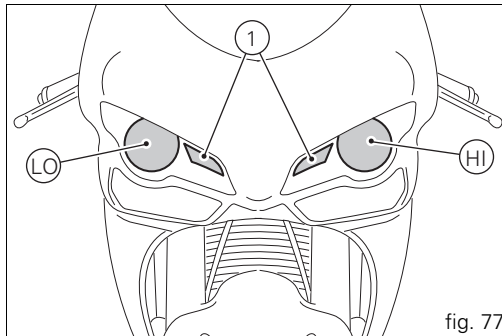

fig. 77
Shown in fig. 77 are the locations of the low beam bulb (LO), high beam bulb (HI) and parking light bulb (1).